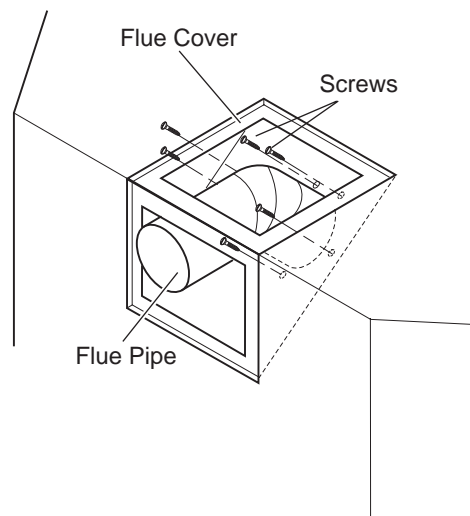

Figure 10 - Removing Flue Pipe
4. Remove the six (6) screws securing the flue pipe to the back of the intake box and remove the pipe and gasket. *See Figure 10.*